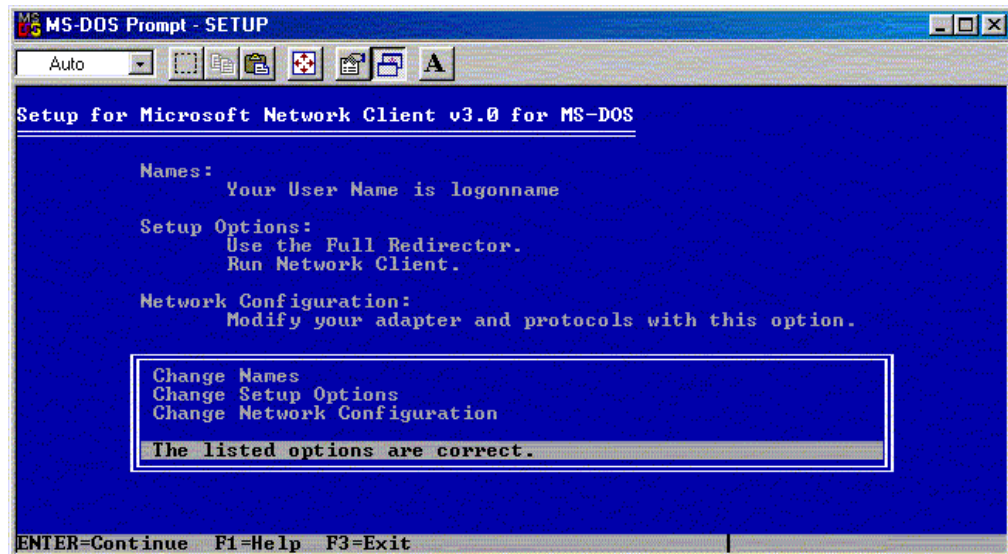
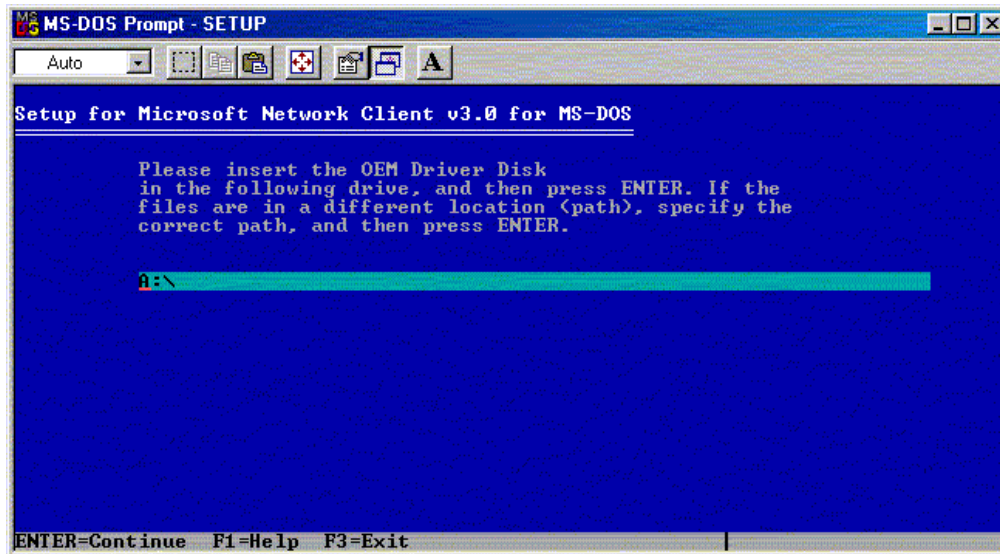

Figure A-10: Default Network Client 3.0 settings
Figure A-14: Default location prompt for the OEM Driver Disk
8. Enter the network logon user name. A screen similar to Figure A-10 displays the default Network Client 3.0 settings.
14. Press the **Enter** key again at the Network Client 3.0 settings screen (Figure A-10), and a prompt for the OEM Driver Disk is displayed, similar to Figure A-14.